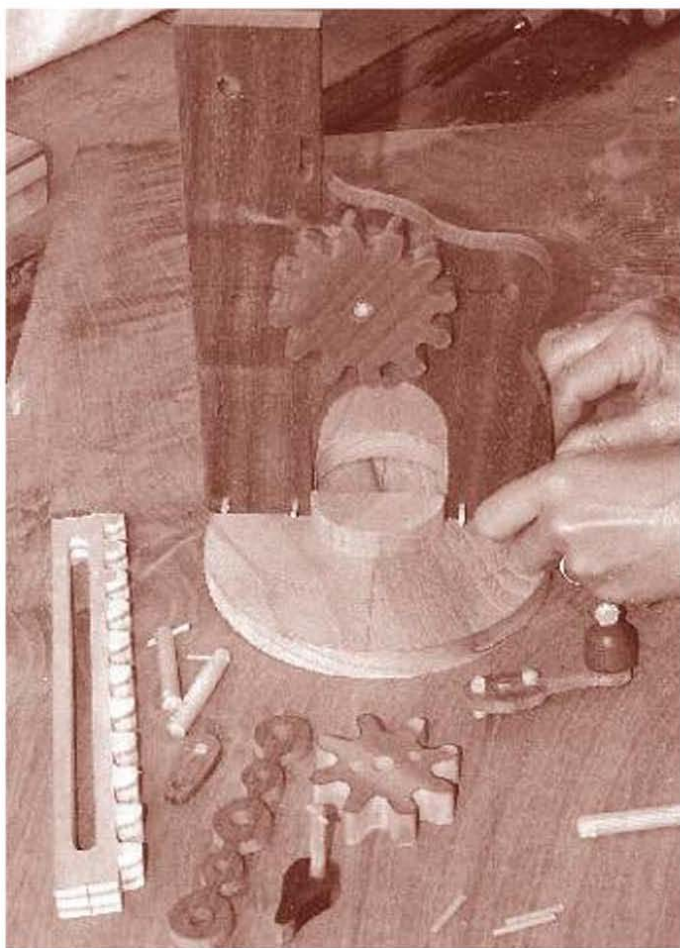

FIGURE 26-7
- 4** Make sure the frame is stable and true-firm, square and free from wobble (Figure 26-7).